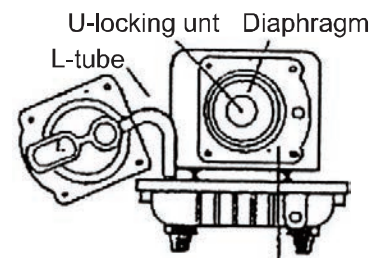

Figure 5c
- IV) Put back in place, ensure all screws are tight. (Figure 5c)